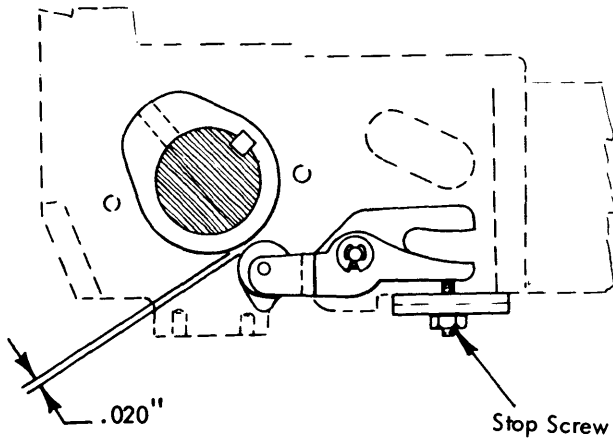

FIGURE 81. *Print Cam Follower Stop Screw*
7. Print Cam Follower Stop Screw - Adjust the cam follower stop screw so that the print cam follower roller clears the print cam by .020" when the machine is at rest (Fig. 81). This clearance allows the roller to shift from one lobe to the other without rubbing on the cam. Use the following procedure to obtain this adjustment: